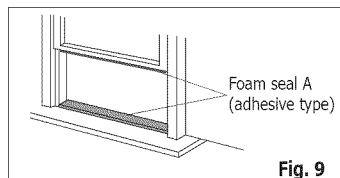

Fig. 9
1. Cut the foam seals(adhesive type) to the proper lengths and attach them to the window and stool. (Fig. 9)